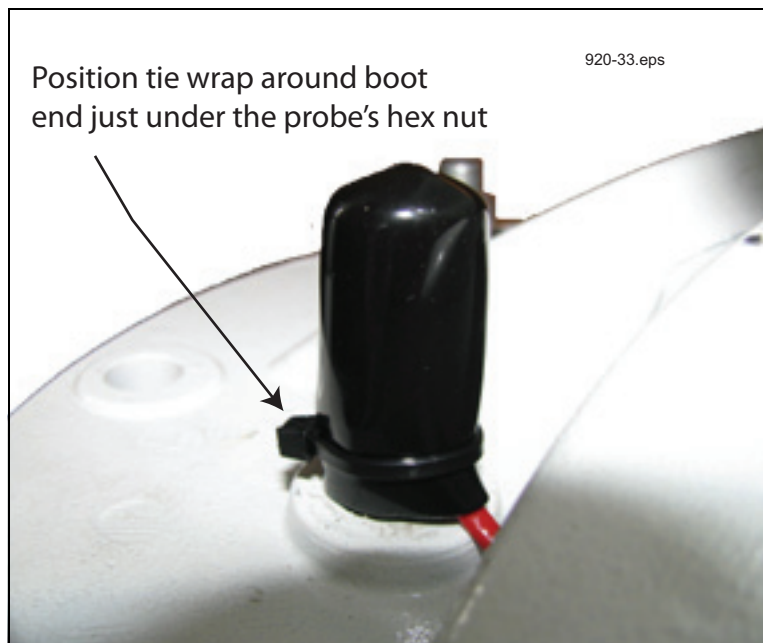

**Figure 20. CCVP Thermal Probe**
1. Cut the tie wrap around the thermal probe's protective boot and remove and set aside the boot. Remove the thermal probe cable connector from the back of the vapor valve assembly (see Figure 20).